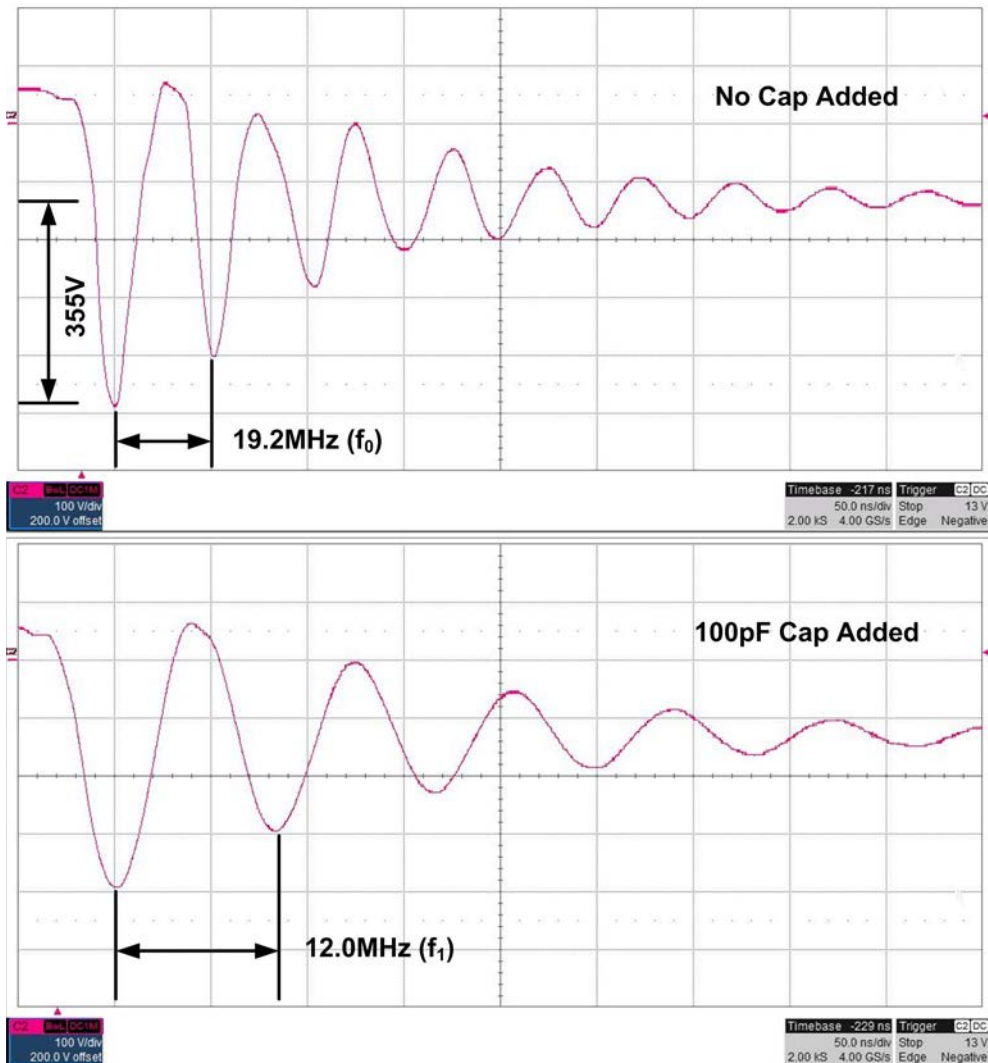

Figure 2: Un-snubbed rectifier ringing (top) and frequency shifted ring (bottom)
- 1) Measure the circuit's oscillation frequency (f_0). See figure 2 (top).
- 2) Add a capacitor (C_1) in parallel with the rectifier or FET and measure the shifted oscillation frequency (f_1). Select a C_1 value that is several time larger than the rectifier's typical capacitance at full reverse voltage in the datasheet. In this example, the rectifiers reverse capacitance was 22pF, so 100pF was chosen for C_1 . A frequency shift of at least 50% is reasonable. See figure 2 (bottom).